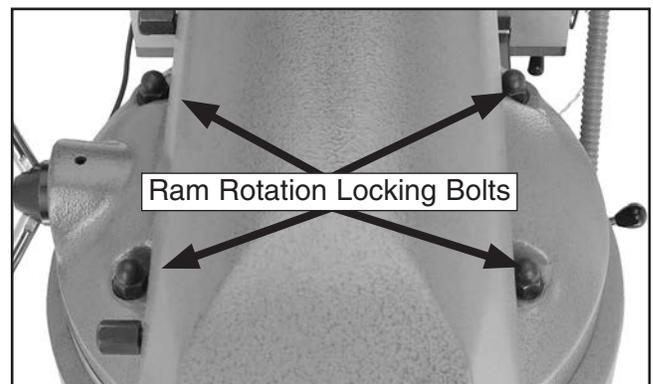

Figure 24. Ram rotation locking bolts.
2. Use a 19mm wrench to loosen the four rotation locking bolts, as shown in **Figure 24**.